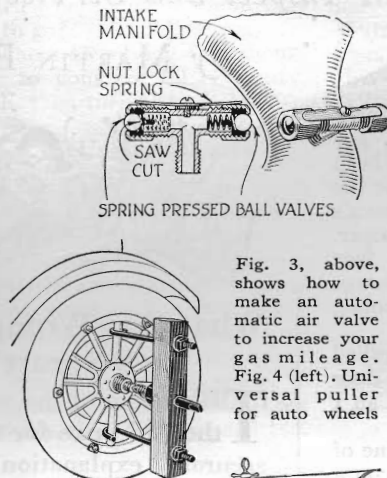

Fig. 3, above, shows how to make an automatic air valve to increase your gas mileage. Fig. 4 (left). Universal puller for auto wheels
R. BOETTINGER, of Union City, N. J., wins the \$10 prize this month for his suggestion of the homemade air valve (Fig. 3). Each month POPULAR SCIENCE MONTHLY awards \$10 in addition to regular space rates to the reader sending in the best idea for motorists. Other published contributions will be paid for at usual rates.
**A** PROPERLY adjusted spring controlled air valve in the manifold between the carburetor and the cylinder head will materially increase your gasoline mileage. Fig. 3 shows how to make such a device from standard parts. An ordinary solderless union tee of the type used in gasoline lines forms the body. A light spring and a ball bearing of suitable size are placed in each end of the tee under the nut, which